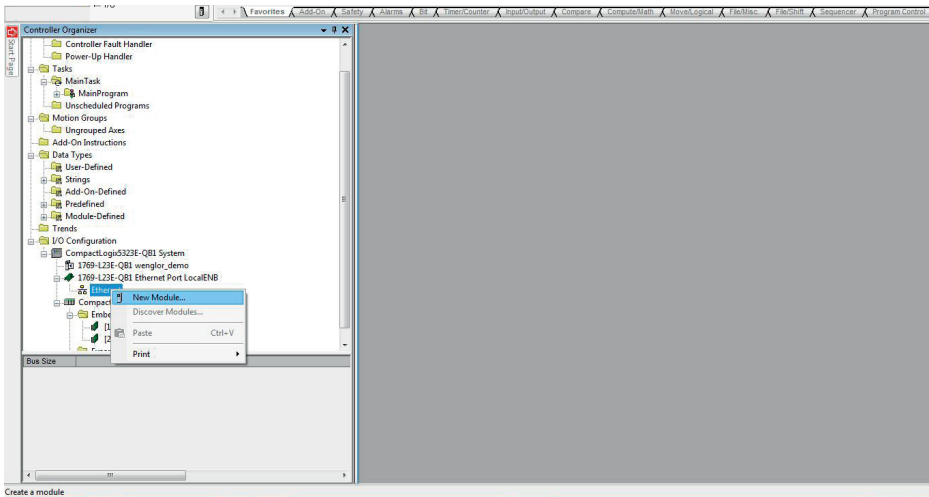

Figure 10: Controller Organizer
- “Ethernet” must then be selected in the “Controller Organizer” under “I/O Configuration” and the utilized controller, after which the context menu is opened by right clicking. Select “New Module” from the context menu (see figure 10).